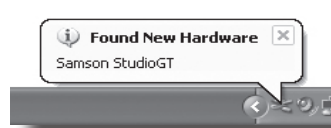

Figure 6
1. The first time you plug the Studio GT into a USB port, Windows XP will install the universal drivers for that port. A balloon tip will pop up, telling you it has found the Samson StudioGT (Figure 6).